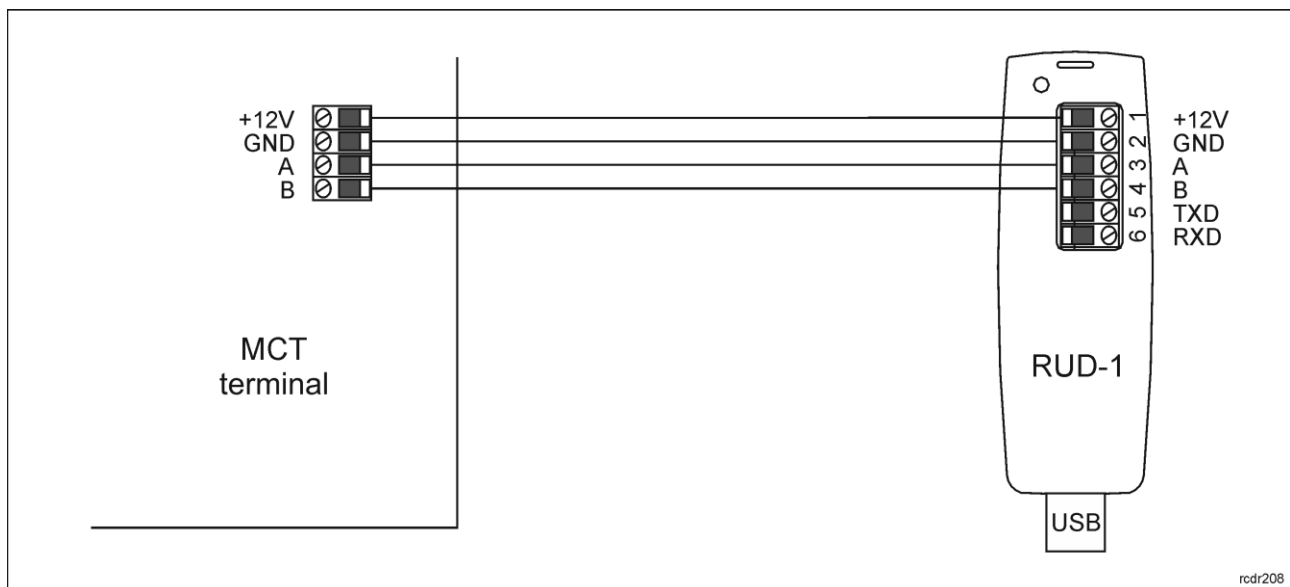

Fig. 8 Connection to RUD-1 interface.
1. Connect the device to RUD-1 interface (fig. 8) and connect the RUD-1 to computer's USB port.
2. Connect the device to RUD-1 interface according to fig. 8 and connect RUD-1 to computer's USB port. The terminal will display CONFIG MODE text and orange LED SYSTEM will pulsate.